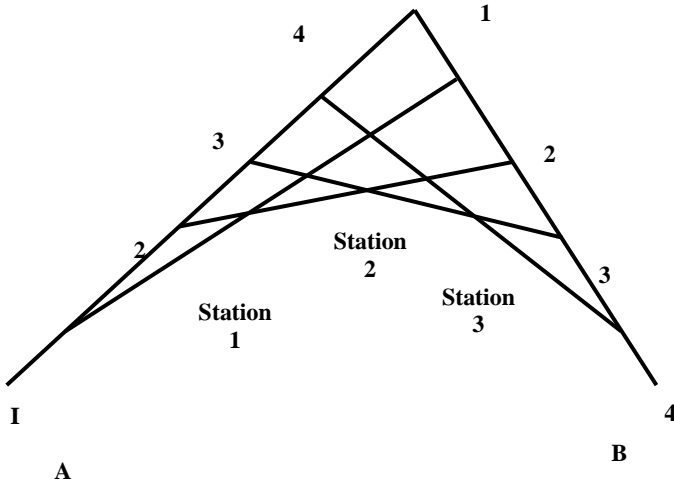

Figure 11-20: Setting Out a Parabolic Curve
1158. Setting out parabolic curves. The parabolic curve is suitable for short road curves, and can be set out quickly using only a tape and banderoles. It is particularly useful when the tangent lengths are necessarily unequal (see Figure 11.20).
- b. Divide each tangent length into the same number of equal distances and number them as shown in Figure 11.20